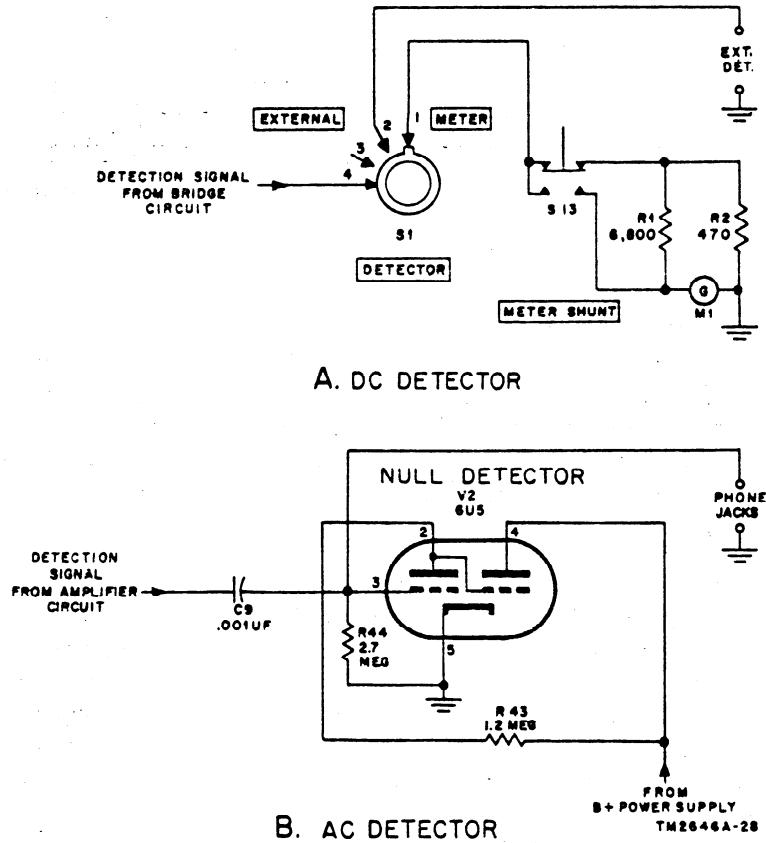

Figure 26. Detection circuits, simplified schematic diagram.
a. The detection signals to the detection circuits are controlled by DETECTOR switch S1 (fig. 37) and are directly coupled to the detector except for the INTERNAL position (par. 61), which controls the input to the amplifier circuit. When the DETECTOR switch is in the INTERNAL position, the detector signal from the amplifier circuit is coupled, through capacitor C9 to the grid (pin 3) of null detector V2 (B, fig. 26). The plate (pin 4) of tube V2 is connected directly to the B+ power supply and the deflector plate (pin 2) is connected to B+ through plate voltage-dropping resistor R43. Resistor R44 is the grid-leak resistor. The PHONES jacks are connected across the grid of null detector V2 to ground, and are provided for audio null detection purposes.
b. When DETECTOR switch S1 is in the EXTERNAL position, the detection signal from the bridge circuit is channeled directly to the EXT. DET. binding posts on the front panel (A, fig. 26) through contacts 4 and 2 of S1. Provision is thus available for connecting other detection devices, such as oscilloscopes, output voltmeters, etc. However when S1 is in the EXTERNAL position, the detection signal amplifier (par. 61) is switched out of the circuit (fig. 37).
c. When in the METER position, the DETECTOR switch connects the detection signal directly to galvanometer M1 (A, fig. 26). The galvanometer is a conventional D'Arsonval type meter, with 7.5 microamperes sensitivity in either direction from center 0